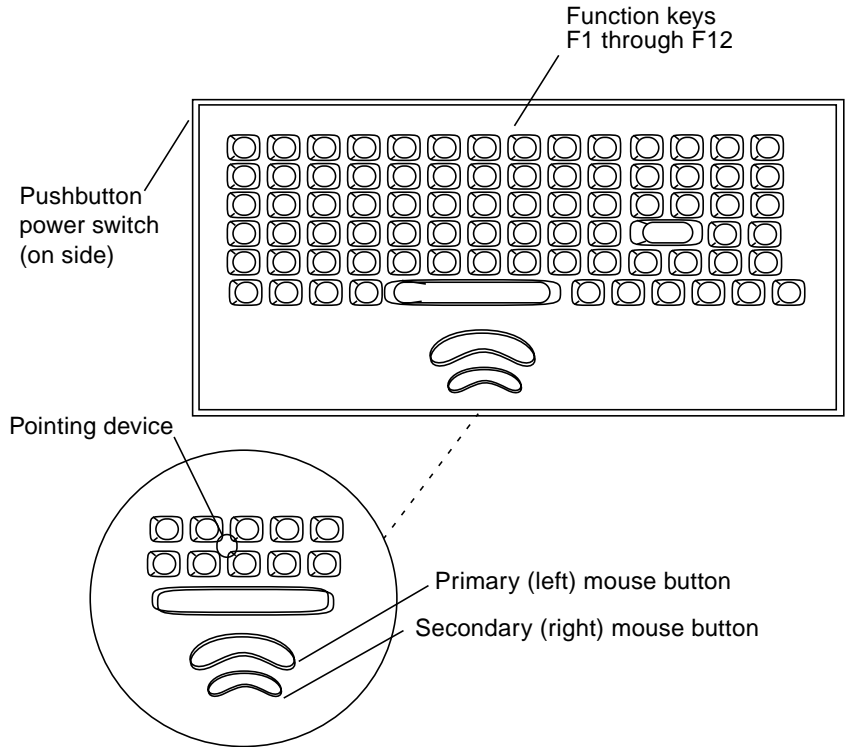

FIGURE 7-3 System Console Keyboard with Pointing Device
Because the System Console uses a graphical user interface (GUI), you use the pointing device and two mouse buttons to navigate. See FIGURE 7-3. Refer to TABLE 7-1 for GUI terminology used in this Guide.
6. **Power on the System Console; its power switch is shown in FIGURE 7-3. Also note the location of the pointing device and left mouse button you will be using in the next steps.**